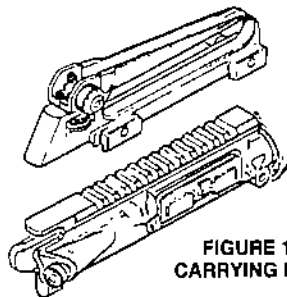

FIGURE 14 —
Clean and lubricate (as described on page 47 items 11, 12 and 13.) When the carrying handle is off the rifle, lightly lubricate the two securing screw threads and make sure the flat top of the rifle is clean and free from damage. (See Figure 14.)